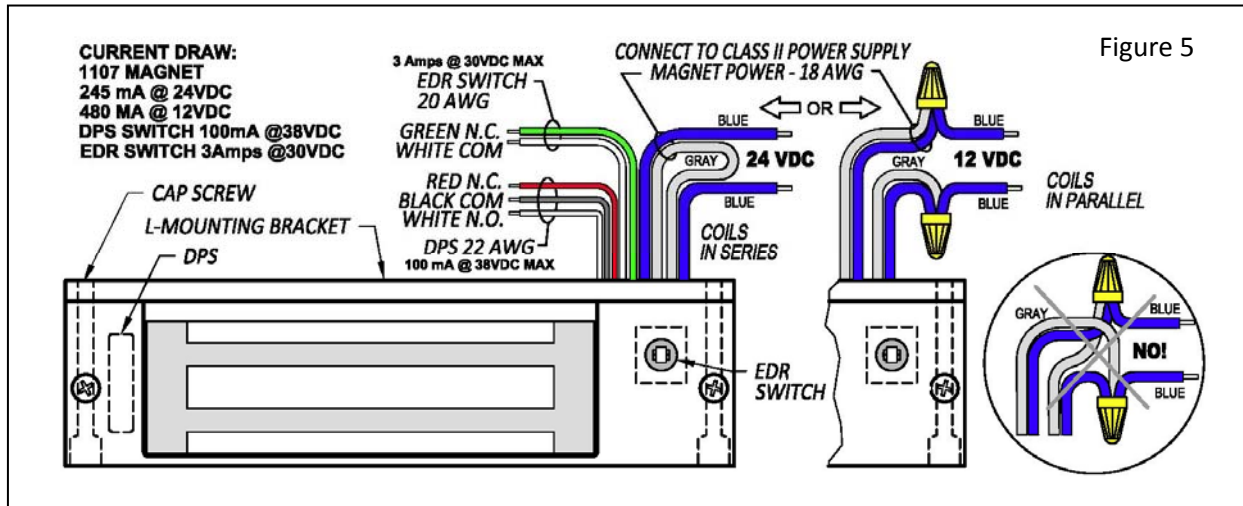

Figure 5
Make all electrical connections per figure 5 below. Attach the electro-magnet to the mounting plate using the (2) 1/4" cap screws and split washers, **do not over tighten the cap screws they will need to be removed for final adjustment.** With the electro-magnet energized and the armature fully engaged, position the Lock so that the door is snug against stops mark the position of the lock mounting plate; then **Turn the system off.** Remove the (2) 1/4" cap screws, remove the electro-magnet and fully tighten the (4) screws that hold the lock mounting plate to the header. Using the (2) 3/16" dia. holes in the mounting plate as a physical template prepare the frame for the (2) locking screws. Drill .159 dia. Holes (No. 21 drill) and tap frame for No. 10-32 machine screws, or drill two 11/64" dia. in the frame for No. 10 sheet metal screws. Secure mounting plate with #10 screws and lock washers. **The use of the # 10 locking screws is important.** They provide resistance to shear and rotation, and assure that maximum holding force is developed.
The 1107 electro-magnetic lock should be connected to a Class 2 power supply. Leads are connected in series for 24 volt operation (as shipped from the factory) or connected in parallel for 12 volt operation. **For 12 volt operation**, cut the gray wire to make 2 equal lengths, strip back the insulation 3/8" on each lead and connect each gray wire end to the closer blue wire end – see Figure 5 below. **Note: For 12 VDC (parallel coils) the gray wire must be connected to the adjacent blue wire or the magnetic bond will be significantly reduced.**